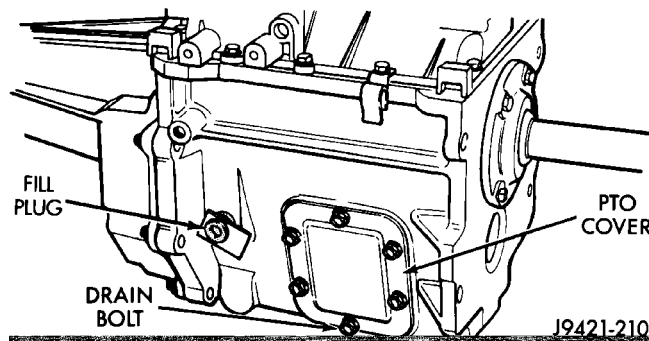

FIGURE 1 - Transmission drain and fill locations
5. Remove the PTO cover bottom bolt and drain the lubricant out of the transmission (Figure 1).